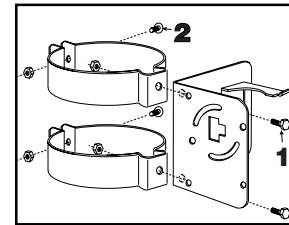

Fig. 6
1. Bolt appropriate size hangers to Battery pack support bracket as shown using 1/4 x 20 x 0.5" (13 mm) hex head bolt/nuts (Item 1 Fig 6) - 2 places.
2. Loosely attach conduit hanger tightening bolts using 1/4 x 20 x 1.25 inch (32 mm) hex head bolt/nuts (Item 2 Fig. 6) - 1 each hanger.